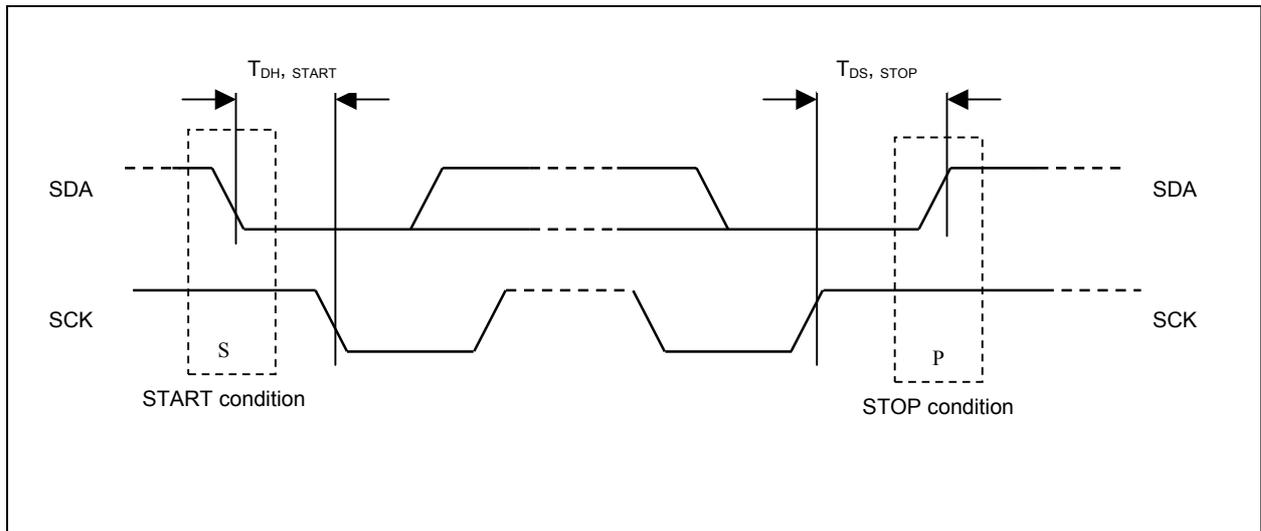

Figure 12 - Definition of the start and stop condition
- 1) The master device initiates the data communication by a start condition. The definition of the start condition is shown in Figure 12. The start condition is established by pulling the SDA from high to low while the SCK stays high.
- 7) The write mode will be finished when a stop condition is applied. The stop condition is also defined in Figure 12. The stop condition is established by pulling the “SDA in” from low to high while the “SCK” stays high.